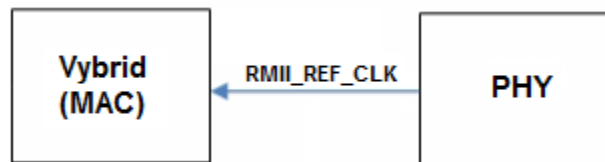

Figure 39. Reference clock from PHY to Vybrid
- By an Ethernet PHY providing it to Vybrid (see Figure 39)